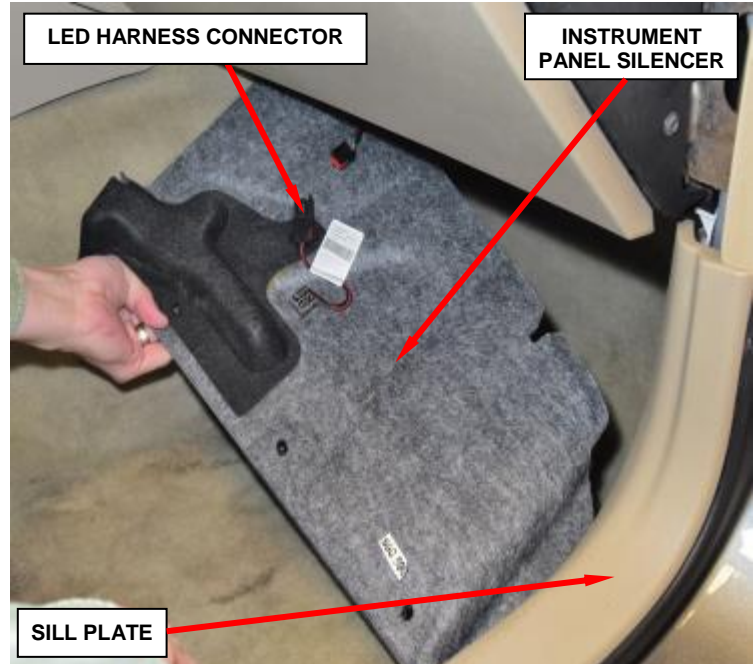

Figure 19 – Instrument Panel Silencer
- b. Remove the right side sill plate (Figure 19).
- c. Remove the three pushpins that secure the instrument panel silencer to the instrument panel (Figure 19).
- d. Disconnect the harness connector(s) and remove the right side instrument panel silencer (Figure 19).